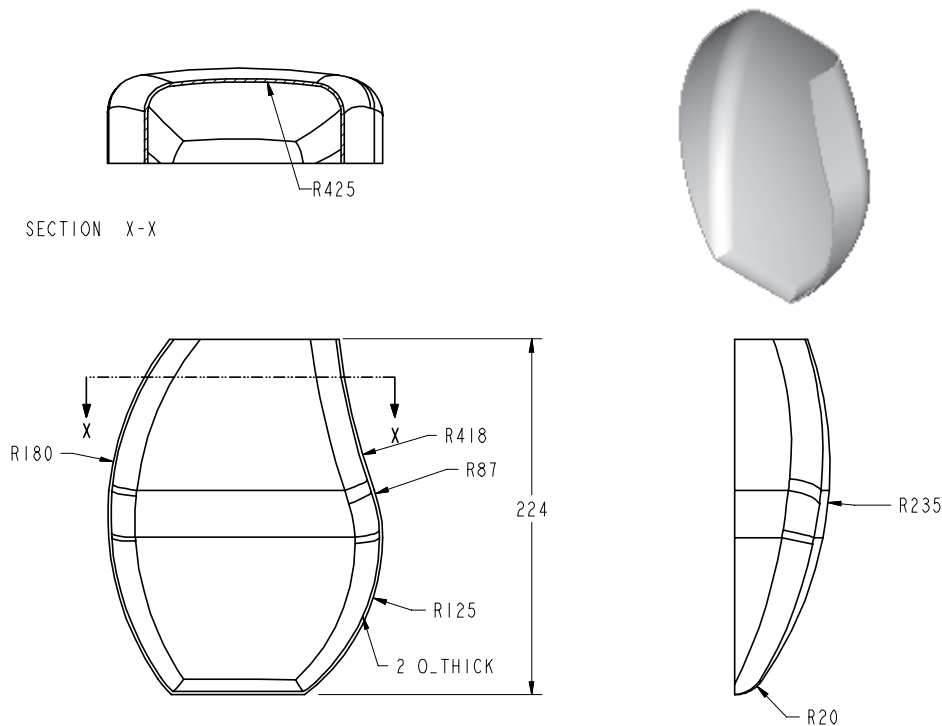

Figure 8-27 Sectioned-top, front, right-side, and isometric views of the model
In this tutorial you will create the model shown in Figure 8-27. This figure also shows the sectioned top, front, right-side, and isometric views of the model. **(Expected time: 45 min)**
- a. First examine the model and then determine the number of features in it. The model is composed of three features, see Figure 8-27.